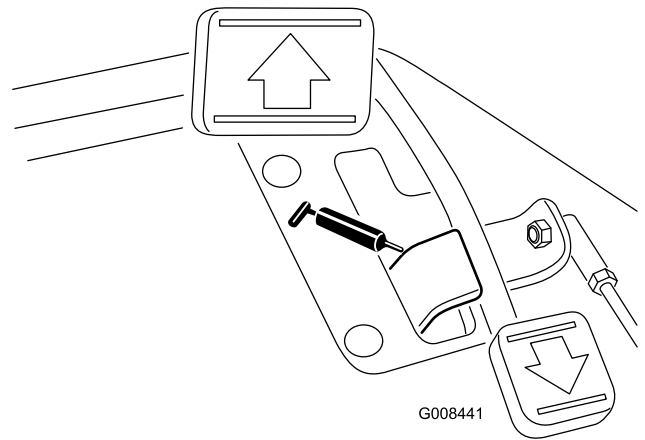

Figure 36
- Traction pedal pivot (1) (Figure 36)